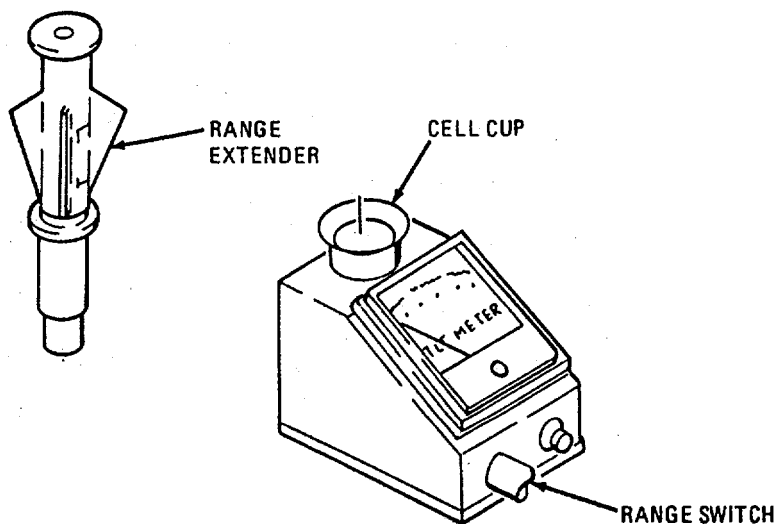

FIGURE 2-11. TOTAL DISSOLVED SOLIDS (TDS) METER
l. Total Dissolved Solids (TDS) Meter. The TDS meter (figure 2-11) is used to measure total dissolved solids in raw and product water.